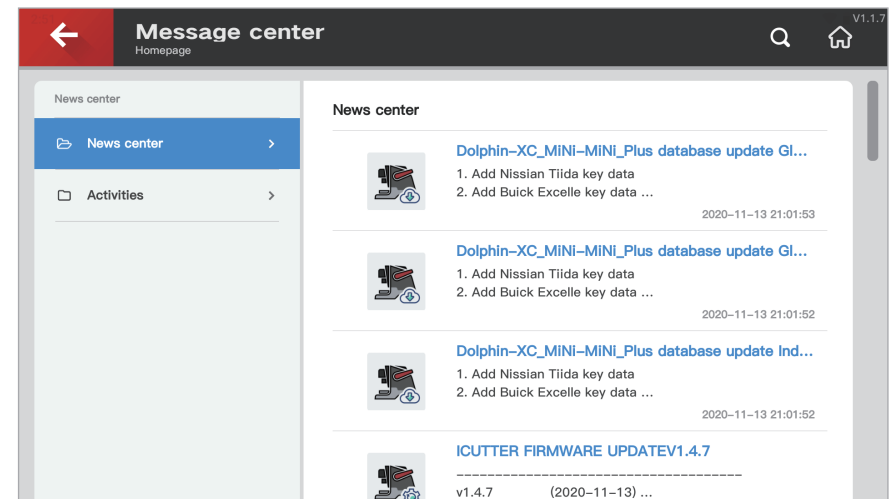

Fig.4.12
**News (Message) center:** Click the icon to get the latest update information. See Fig. 4.12